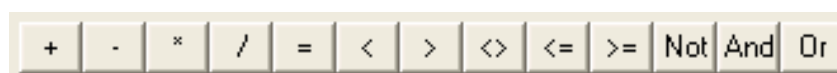

Figure 51 - Operators Buttons
13. The **Operators** buttons (Figure 51) allow you to enter an operation descriptor based on the selected button.